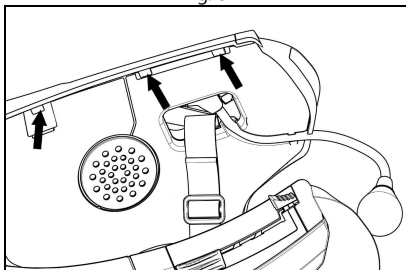

Fig. 10
- Reposition the plastic lining of the cheek padding, arranging it behind the two small stop hooks (Fig. 10)